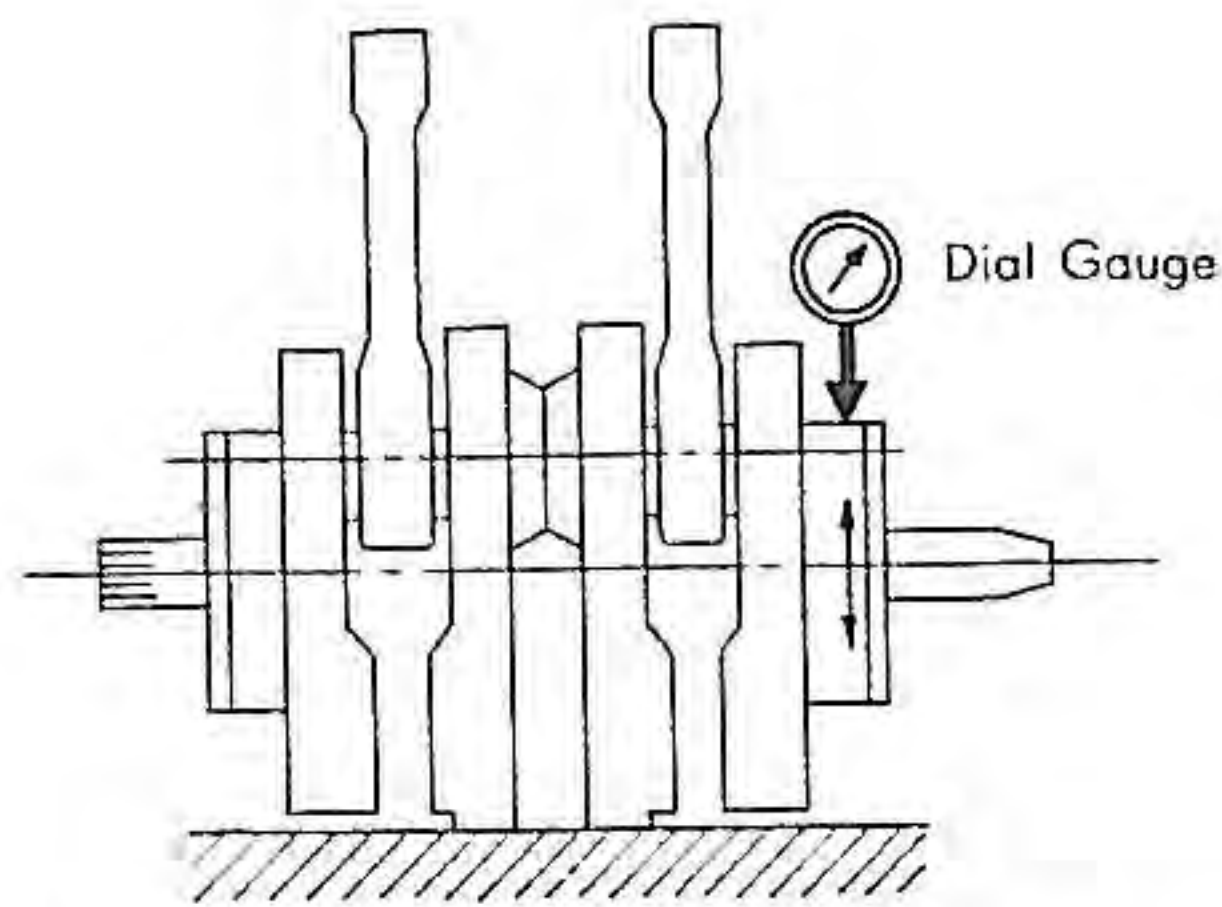

Fig. 68 Measuring run-out of main bearing
(2) Main bearings
- 2-2 Mount the bearings on the crank shaft with the crank shaft supported by V blocks at the balancer weight. Set a dial gauge at zero on the surface of the outer race of bearing and force the outer race up and down radially to measure the amount of free play. Maximum allowable free play is 0.0002" (0.005 mm). (Fig. 68)